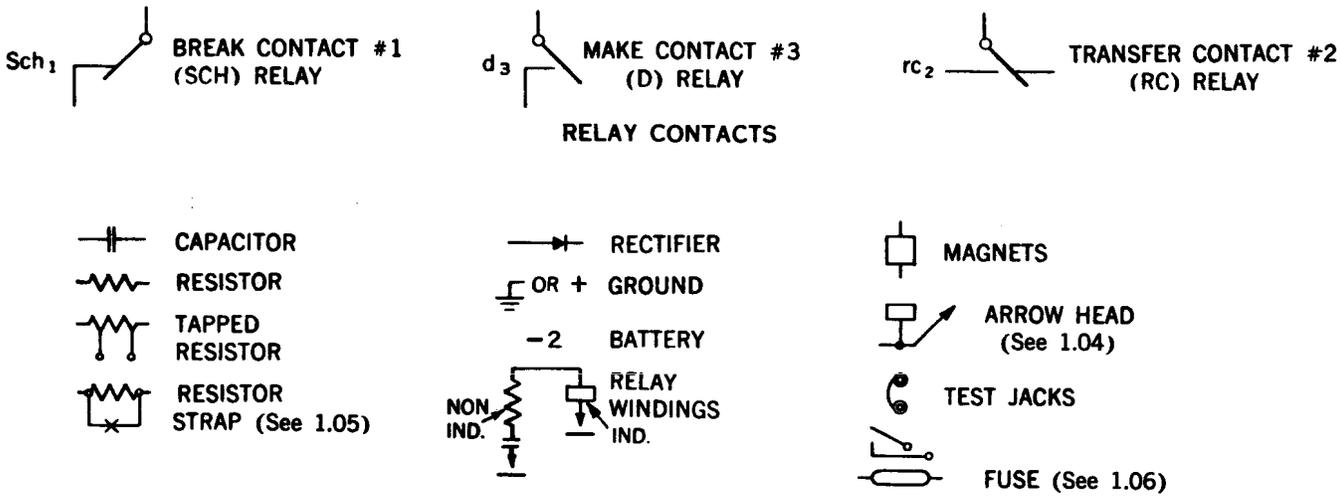

Fig. 2
1.04 Arrowheads, bearing no designation, are used to indicate a tie-in between two points of the circuit which are separated on the same sheet. The connection of the two points may be found by following the direction of an arrowhead, in a straight line to its associated arrowhead (Fig. 2).
1.05 Resistor strapping with an X on the strap as indicated on R2, R5, R11, R13 of S10460-3, S10460-4 and R1 of S10461-3, S10461-4 is used to indicate strap removal when 60-volt operation is used (Fig. 2). 60-volt operation is no longer used in the Bell System; it has been replaced with 72-volts to extend the dc range of the line concentrator. When 72-volt operation is used, strap removal on resistors R11 of S10460-3, S10460-4 and R1 of S10461-3, S10461-4 is required as indicated by the symbol ϕ .
1.06 Fuses are represented by an oval-shaped symbol (Fig. 2). The contacts shown above each symbol are the fuse alarm contacts. Each fuse is designated by the equipment to which it supplies power as well as by a number; this number is also associated with arrowheads at the various components of the central office unit to indicate the source of the battery supply.
1.09 Fig. 2 contains a list of designated symbols as used in the schematics.